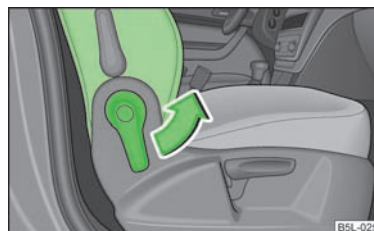

Fig. 42
- Pull the lever in the direction of the arrow » Fig. 42 and fold the seat rest forwards until the lock is heard to engage..